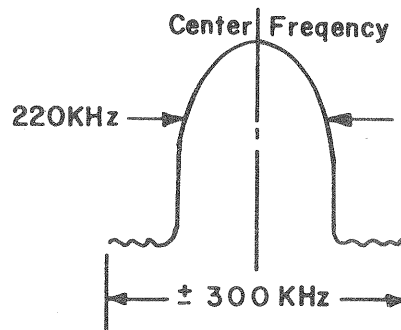

Figure 3
3. Tune the FM Generator, modulated $\pm 300\text{KHz}$ @ approximately 20uv output level to the receiver frequency. Connect a RF detector probe to Pin 6, of the TA7061 (IC201) and center the FM IF response on the oscilloscope. The FM IF bandpass characteristics are now being displayed. Adjust transformer core, of the RF converter (T101) for maximum gain and symmetry (see Figure 3).